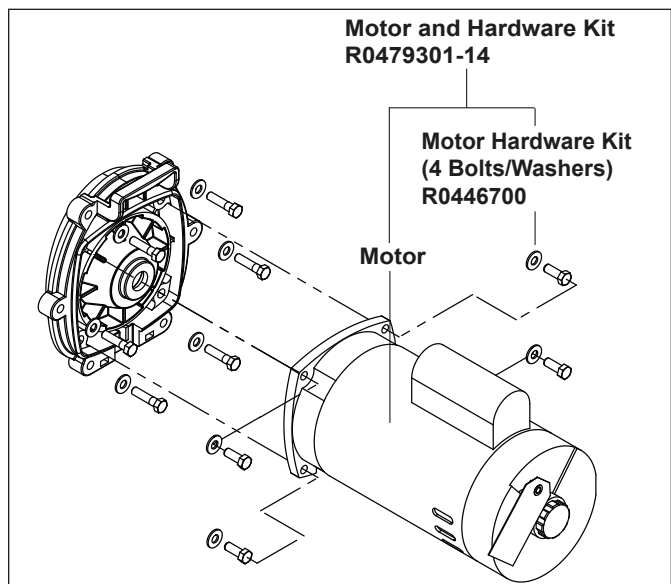

Figure 6. Motor and Attaching Hardware Kits
1. Refer to Figure 6 and the associated parts list to identify the parts included in each replacement kit.
- Note the alignment of the backplate to the motor. (See Figure 6.) Place the backplate motor assembly o-ring side down, unscrew the four (4) 9/16" screws, and remove the motor.
- Secure the motor to the backplate with the four (4) bolts and washers. (See Figure 6.) Tighten the screws to 15 ft-lbs of torque.